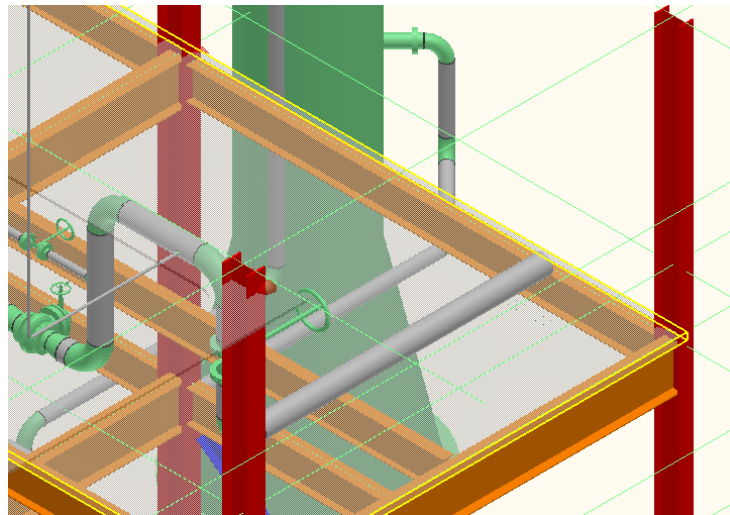

Figure 6: Supporting Slab
4. In the select structure smartstep, select the indicated slab *shown highlighted below in Figure 6* under the pipe straight feature of **300-W**, as shown in Figure 6.